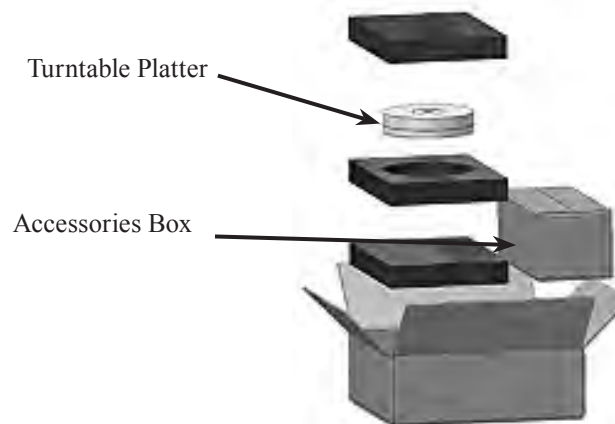

Figure 3
4. Open the turntable platter/accessory carton and remove the the turntable platter. Refer to Figure 3